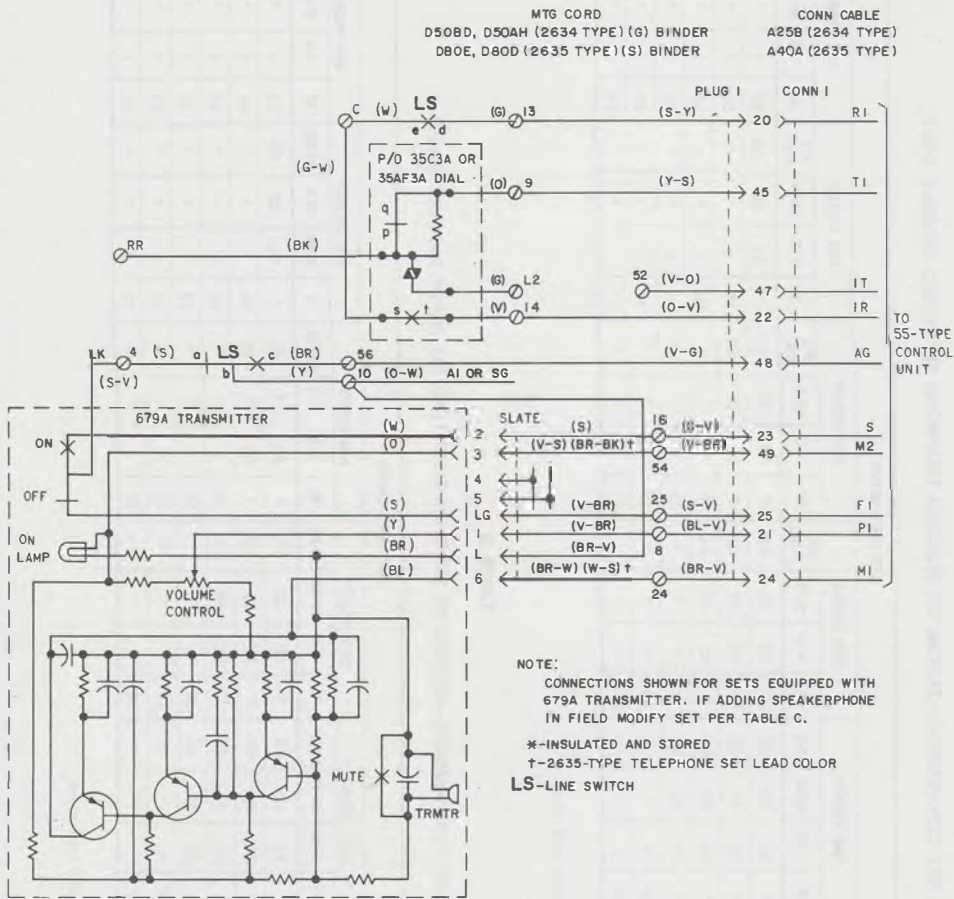

Fig. 4—3-Type Speakerphone Connections
2.09 For 3-type speakerphone operation, a 679A transmitter may be installed in 3rd (2634-type) or 5th (2635-type) module. For necessary wiring changes and connections, see Table C and Fig. 4.
1. Mounting cord conductors from (G) 2634-type or (S) 2635-type binder.
2. Connect the slate plug from the 3rd or 5th module to the 679A transmitter (Fig. 4). All other plugs in the module are insulated and stored.